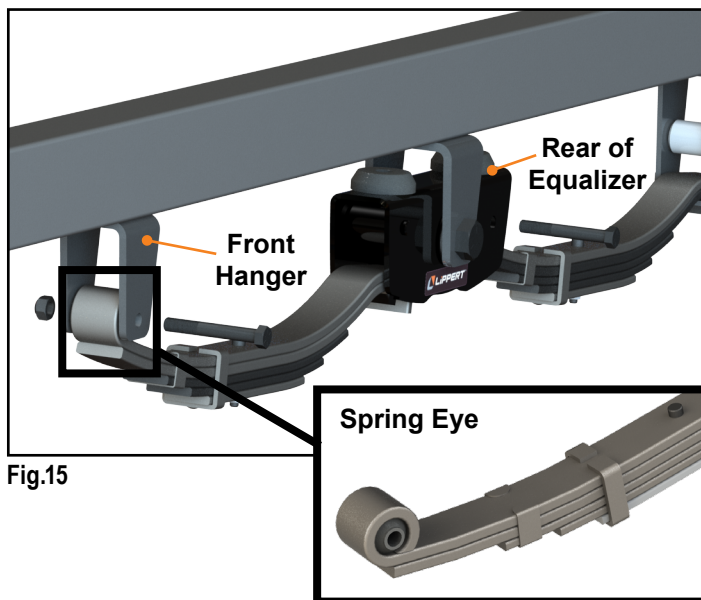

Fig.15
15. Using the $\frac{9}{16}$ " bolts, attach the eye of the springs to the front hangers and to the rear of the equalizers (Fig. 15).